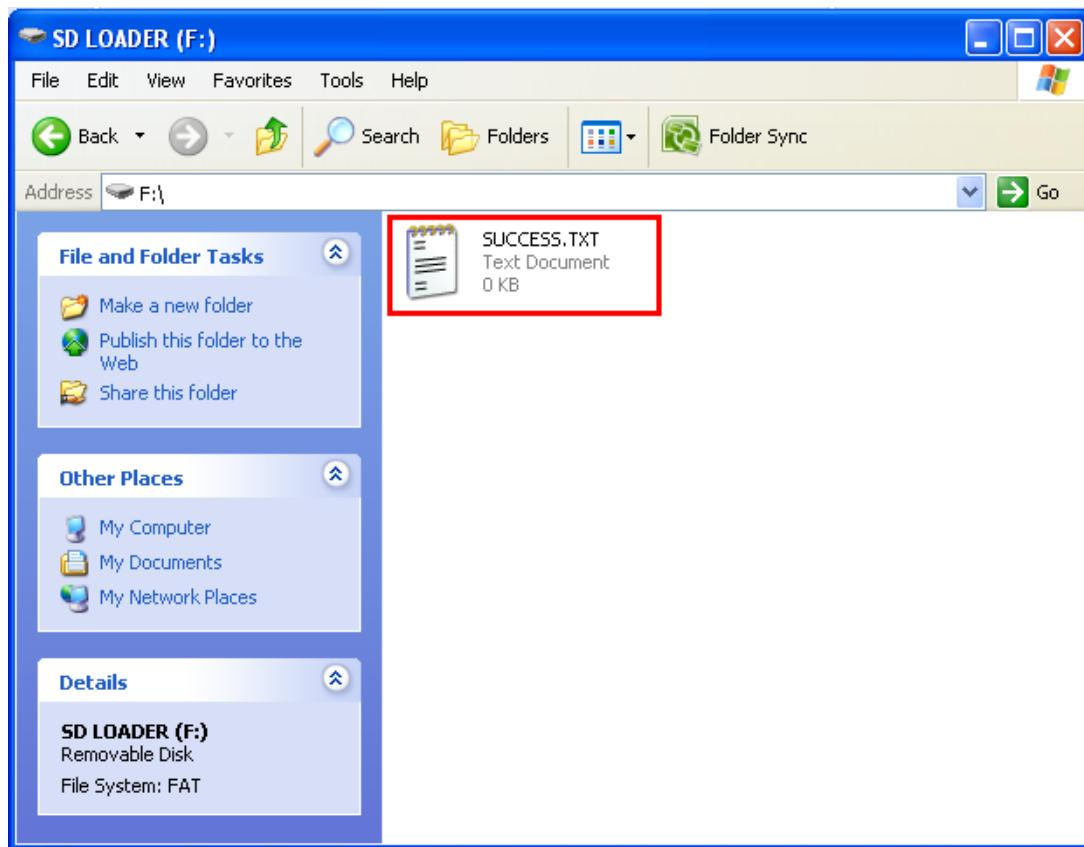

Figure J-14. Transfer success rate
- When transferring finish, by Double-clicking on the SD LOADER icon, you will see a SUCCESS.TXT file Figure J-14.